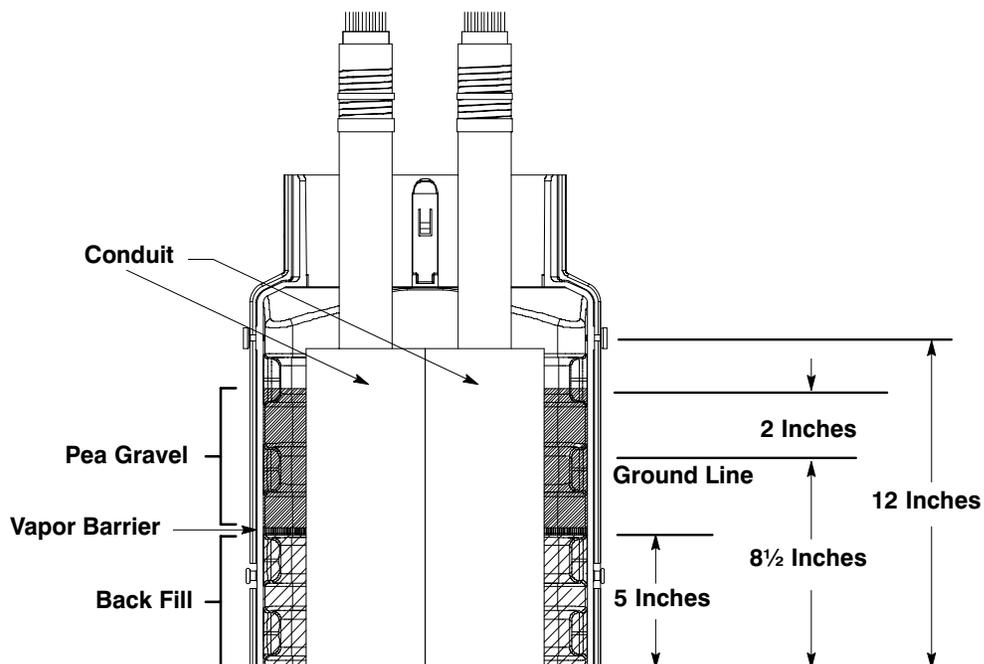

Figure 3. Base Installation
7.	Add pea gravel up to 1½-inches below the conduit. (See Figure 3.) Note: Use pea gravel that is no larger than 5/8-inch in size and non-porous.
8.	<p>Add pea gravel up to 1½-inches below the conduit. (See Figure 3.)</p> <p>Note: Use pea gravel that is no larger than 5/8-inch in size and non-porous.</p>